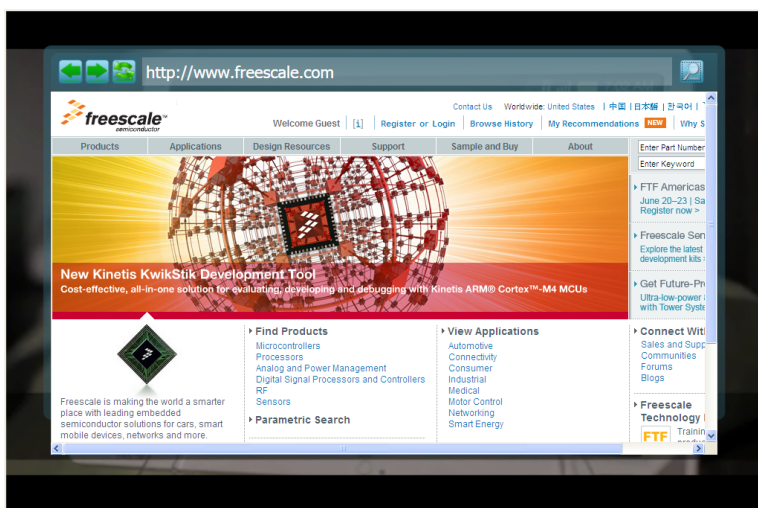

Figure 21. Web Browser/Internet TV view
- In the Web Browser/Internet TV, use the repeated number keys to enter a URL in the same way as writing a text message on a mobile phone (use the 1 key for the dot sign). Choose the OK key to access the URL as shown in Figure 21.